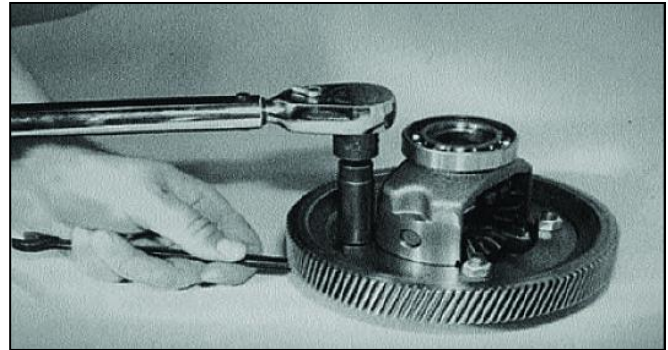

Figure 7-20
- Align both bearing trunnions with intermediate bore. Continue supporting intermediate shaft and gear assembly with one hand and insert the flanged side bearing (10) into opening. To seat the bearing past the O ring a leather or plastic mallet may be required. After flanged side bearing is seated past snap ring groove, install snap ring (4). Repeat procedure for opposite side bearing and snap ring. Use caution as not to damage gear.
- See Figure 7-20. Position differential case assembly (15) with flanged side trunnion face down on work surface. Align final drive gear (18) mounting holes with differential case. Install four bolts (16) and nuts (17).